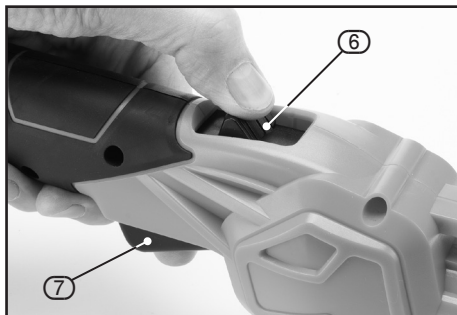

FIG.16
10.6 MANUAL CUTTING LINE FEED – FIGS. 16 – 17